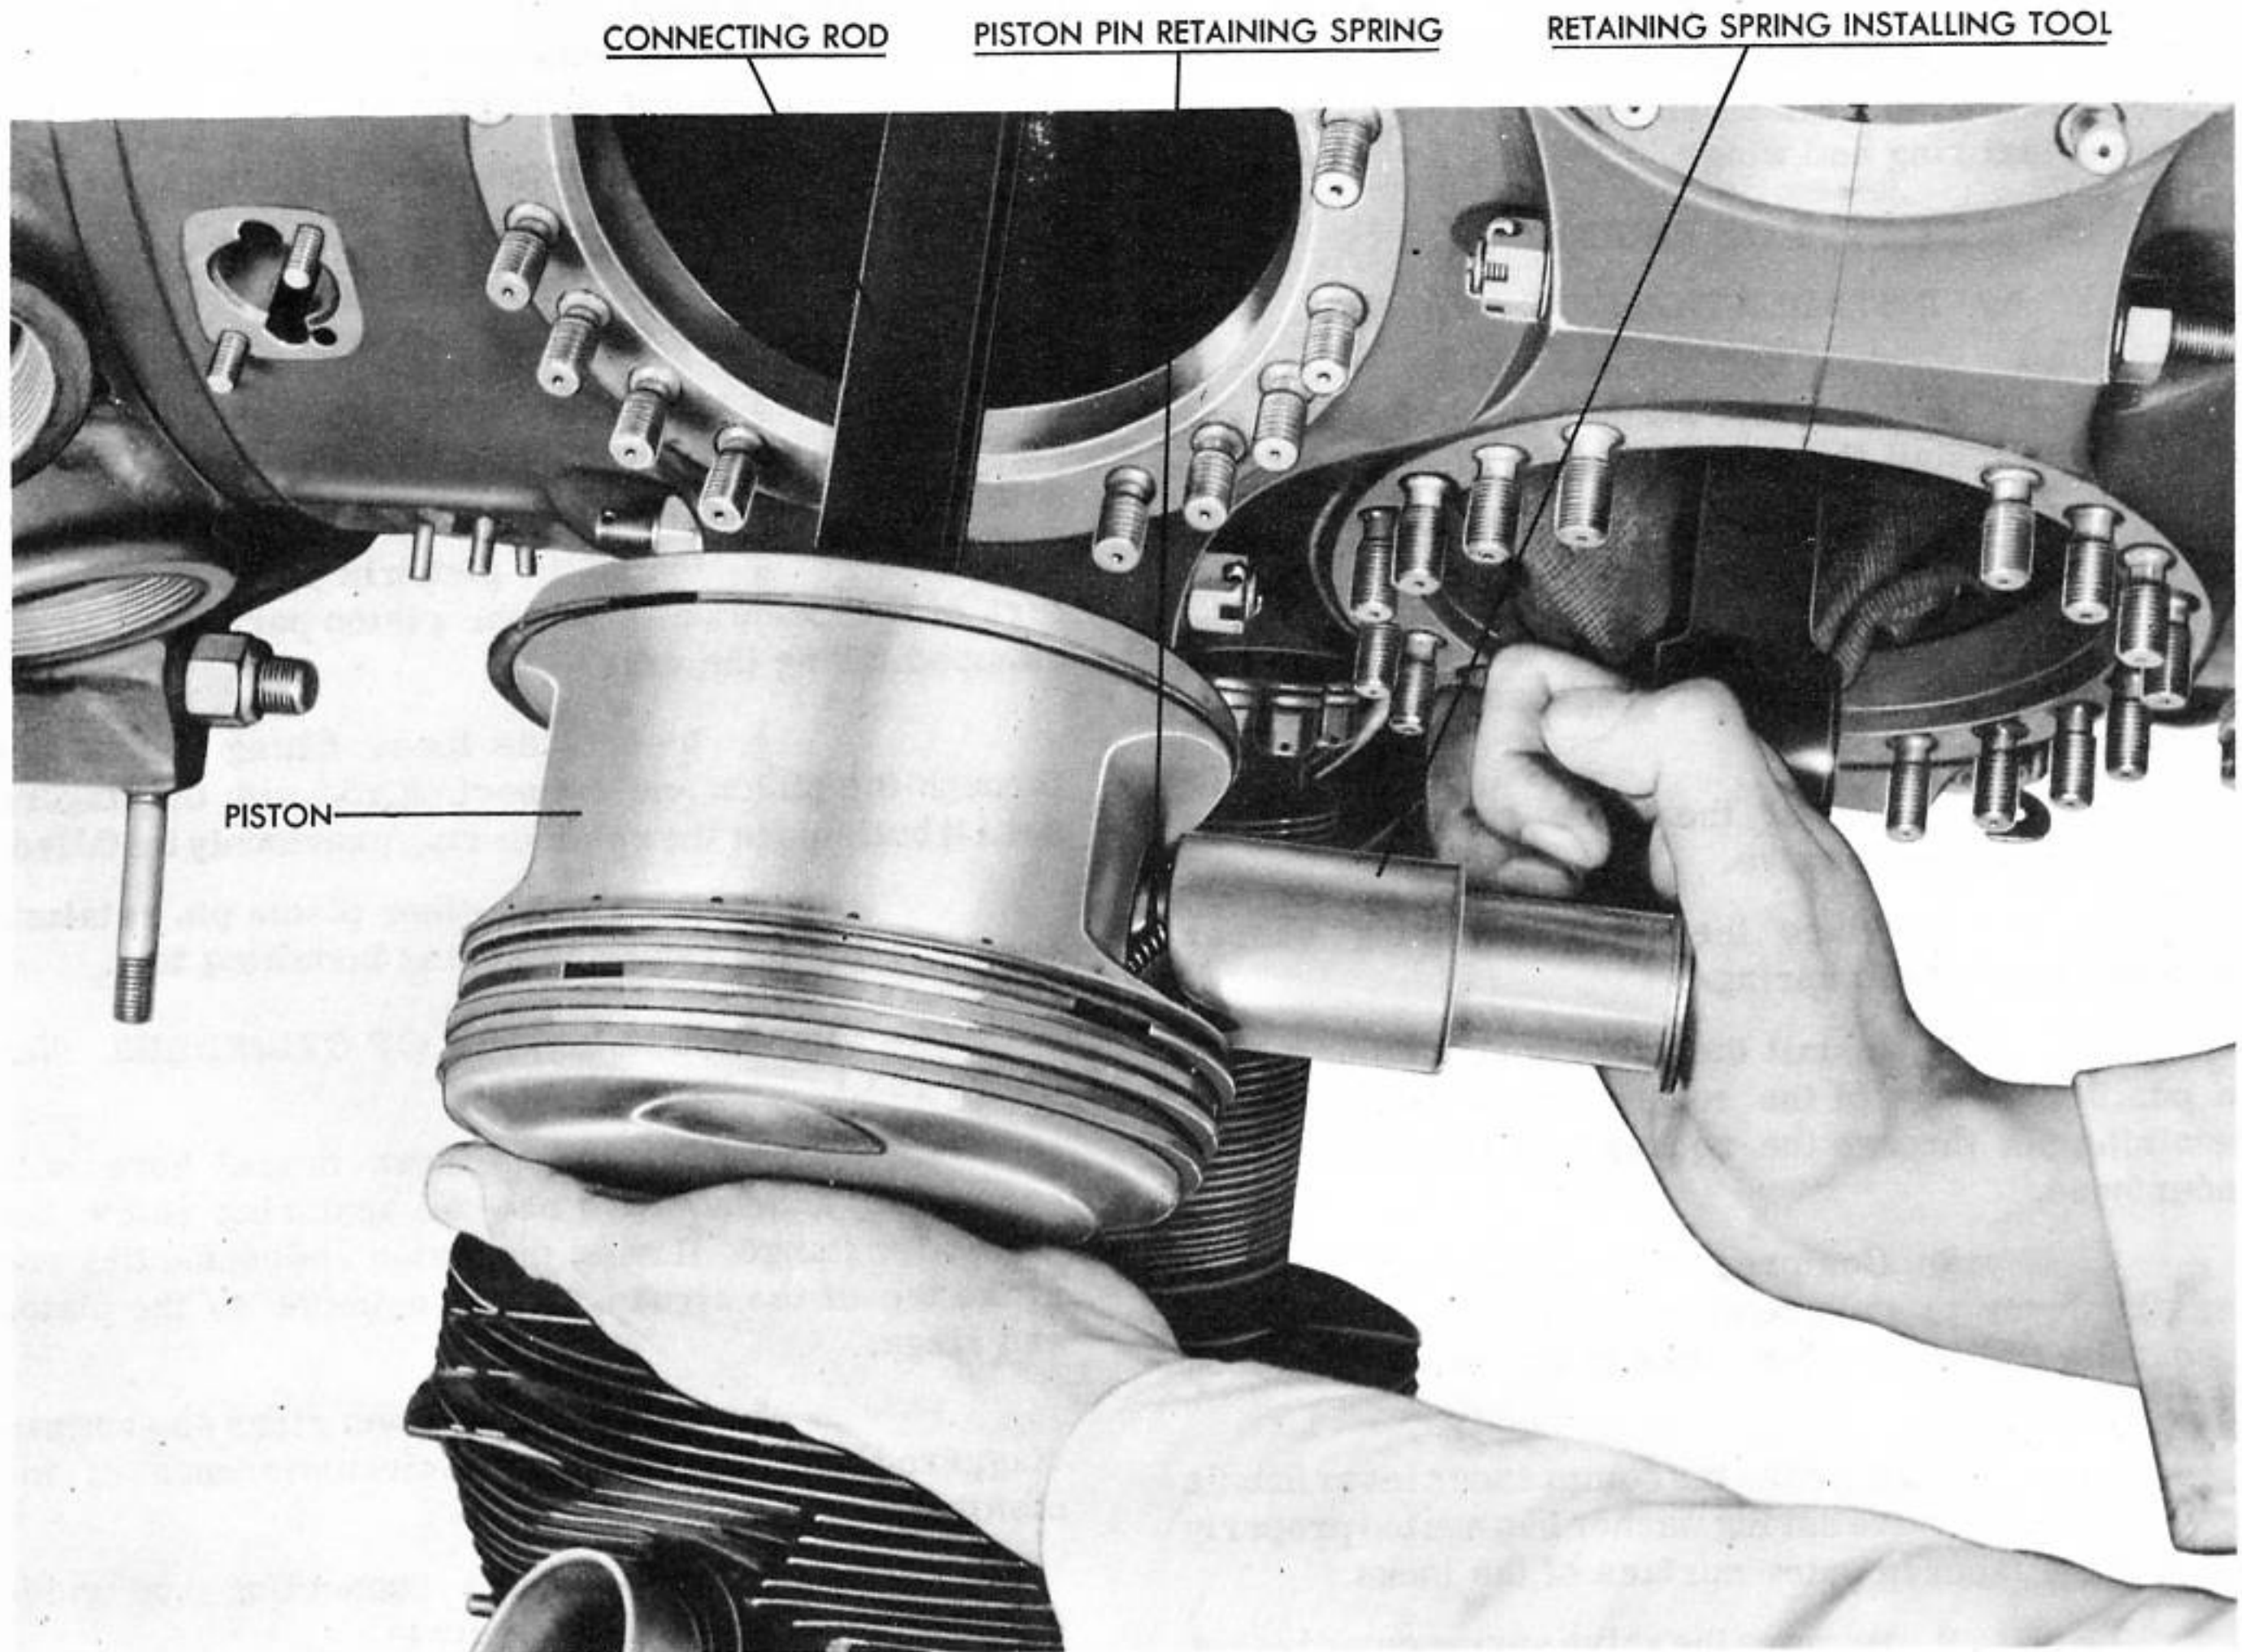

Figure 102 - INSTALLING PISTON PIN LOCK
11. REMOVAL OF PISTON. (See figure 102.)
(b) INSTALLATION OF PISTONS. (See figure 102.)